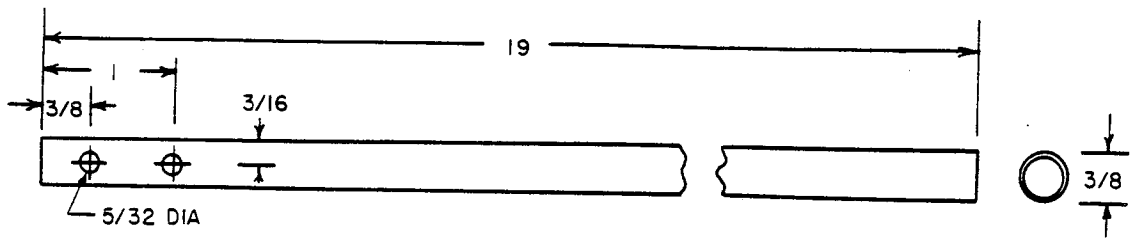

Figure 3-1
Mark and drill all of the holes shown in Figures 3-1 through 3-7. Use a countersink to debur all of the holes after drilling.
- (4) - Vertical Elements (Figure 3-1)